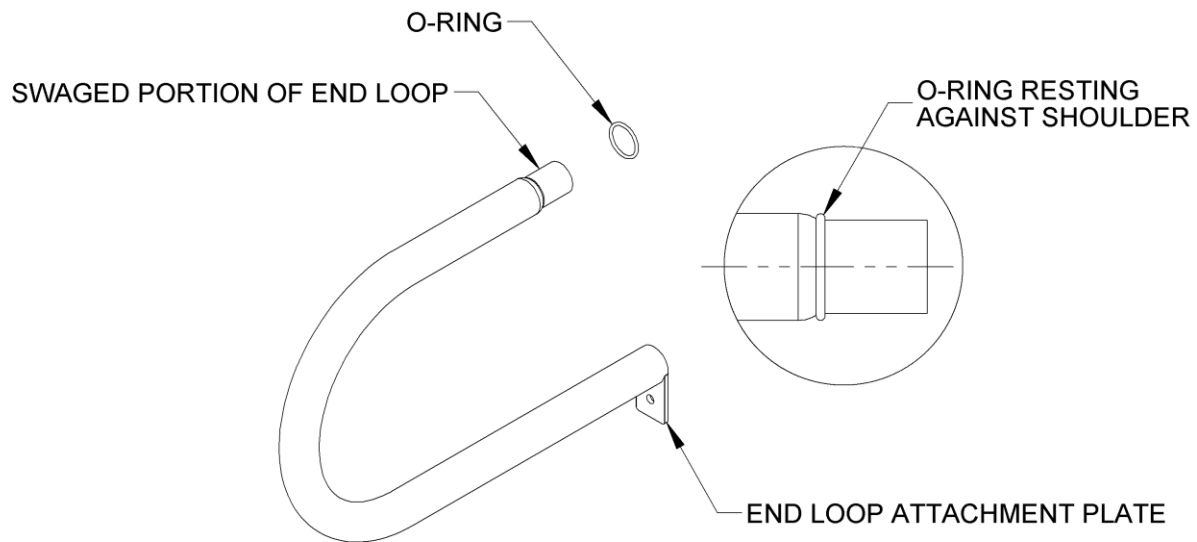

FIG. 7.6
- 7.3.1.1. Install the O-ring over the swaged portion of the end loop until it rests against the loop shoulder (FIG. 7.6).